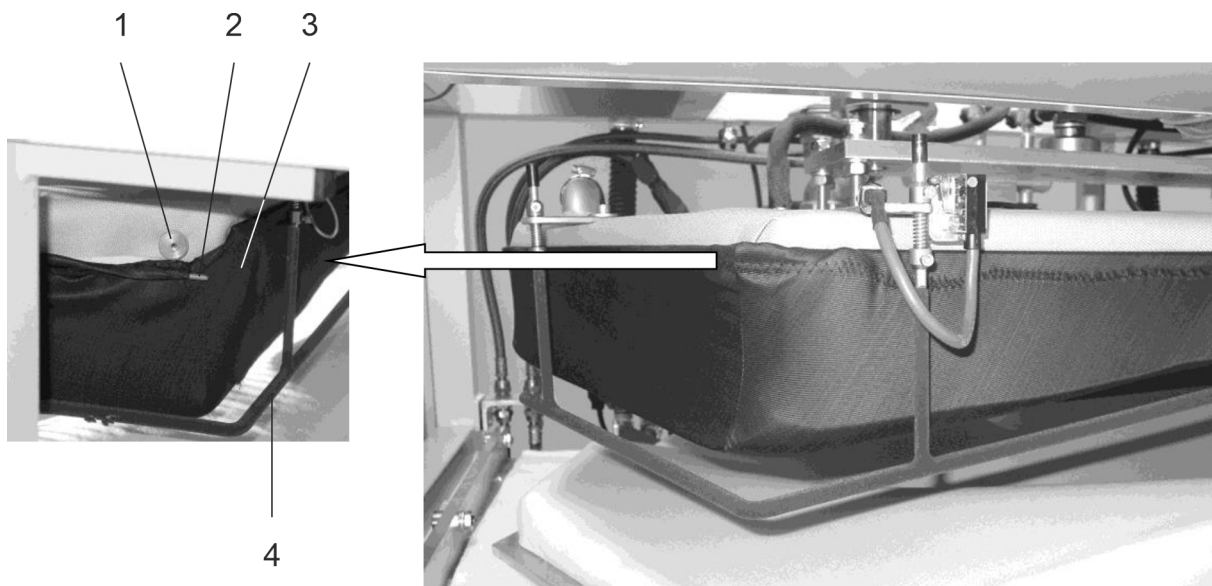

Fig. 23: Changing of pressing covers (head buck BRI-600/101)
7. ➤ **see, Fig. 23**
8. ➤ Mount safety frame, Fig. 23, Pos. 4, and all casing panels inside the machine.
16.▶ see Fig. 23
8. ➤ Mount safety frame, Fig. 23, Pos. 4, all casing panels inside the machine.